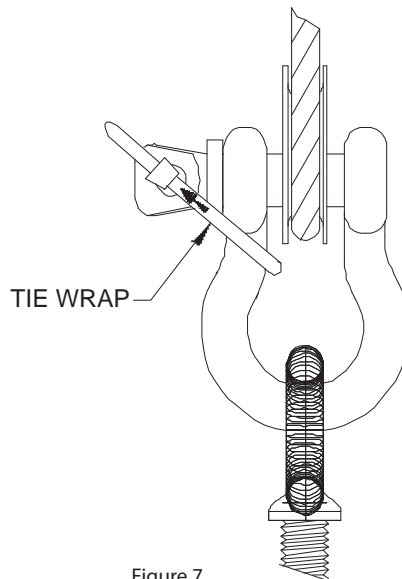

Figure 7
Step 10: To prevent the screw pin of the shackles from loosening over time, secure them with a supplied tie wrap (Figure 7) Tape the knurled end of the clutch lock to avoid long term loosening.